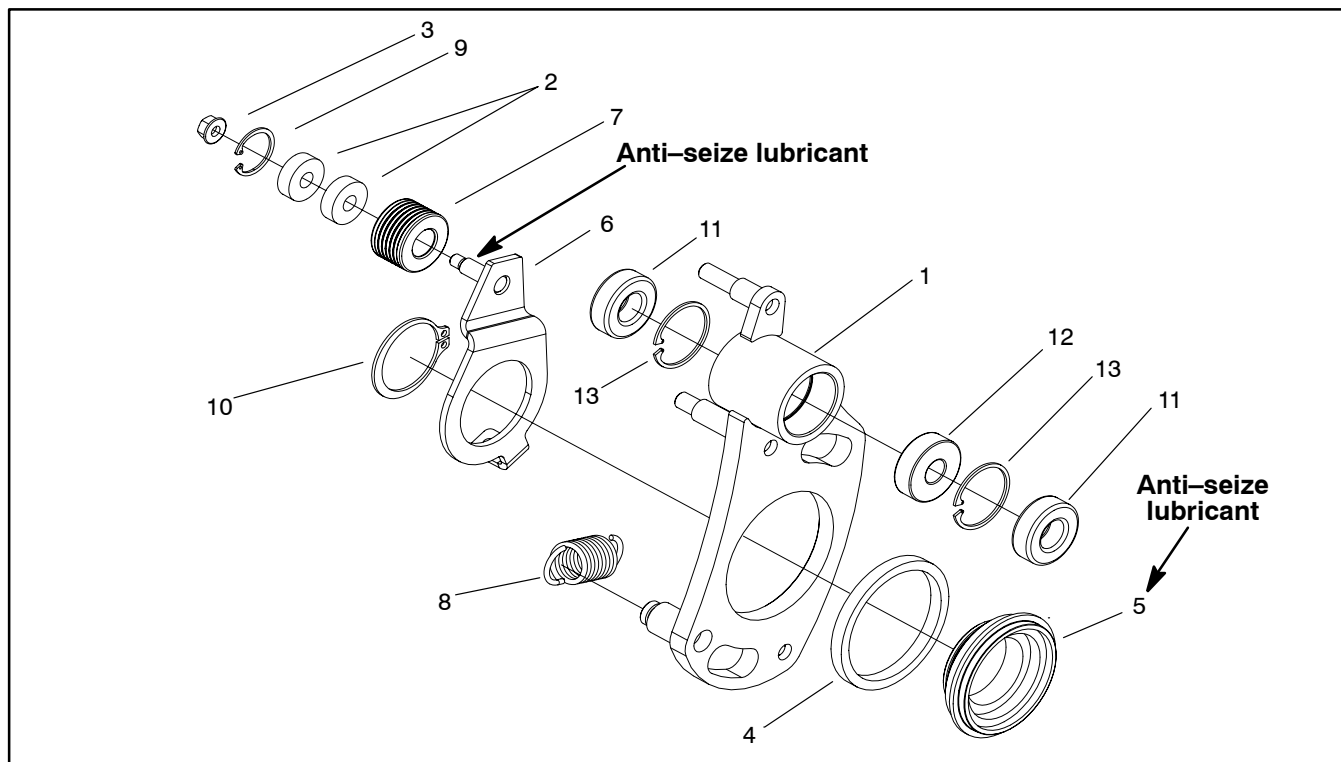

Figure 16
2. Using Figures 16 and 17 as guides, remove idler bracket, idler pulley and/or idler bearings for service as needed.
2. Reassemble components using Figures 16 and 17 as guides.